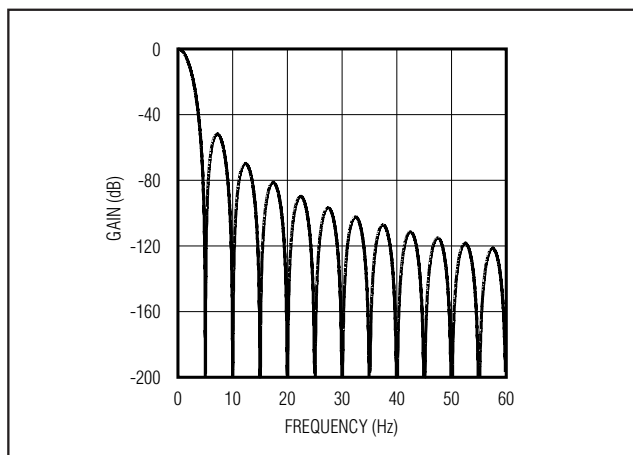

Figure 2. Frequency Response of the SINC4 Filter (Notch at 60Hz)
**Note 7:** Measured at DC by changing the power-supply voltage from 2.7V to 5.25V and measuring the effect on the conversion error with external reference. PSRR at 50Hz and 60Hz exceeds 120dB with filter notches at 50Hz and 60Hz (Figure 2).
Figure 2 shows the filter frequency response. The SINC4 characteristic -3dB cutoff frequency is 0.228 times the first-notch frequency (5Hz).